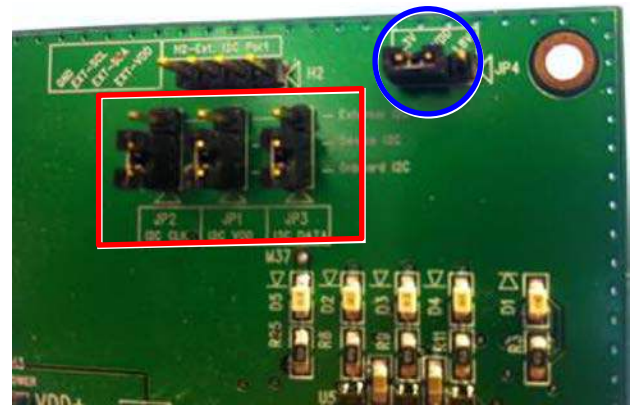

Figure 4. Jumpers as Configured for On-Board I²C Operation
If an external I²C source is to be used, place the JP1, JP2, and JP3 jumpers such that they connect the device I²C lines to the external I²C lines. Otherwise, they should connect the device I²C lines to the on-board I²C lines, as shown in the red rectangular area of Figure 4. If an external I²C is used, an external I²C source can be attached to H2, following the silkscreen labels displayed on the board.
3. Connect JP4 in the 3.3 V location as shown in the blue-circled area of Figure 4. The purpose of this is to power the Cypress USB controller to establish communication between the software and the board.
11. After a successful installation, the **SSM2380** software recognizes a connection from the PC to the **SSM2380** evaluation board. There is no need to adjust the jumper positions of JP1, JP2, and JP3; but they should be connected as shown in Figure 4.